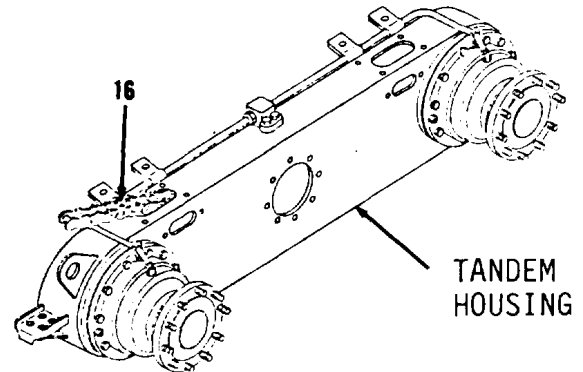

Figure 5-148.
8. Turn wheel spindle counterclockwise while pulling chain (16, Figure 5-148) out of tandem housing.
9. Remove chain (16). Weight of chain is 50 lbs.